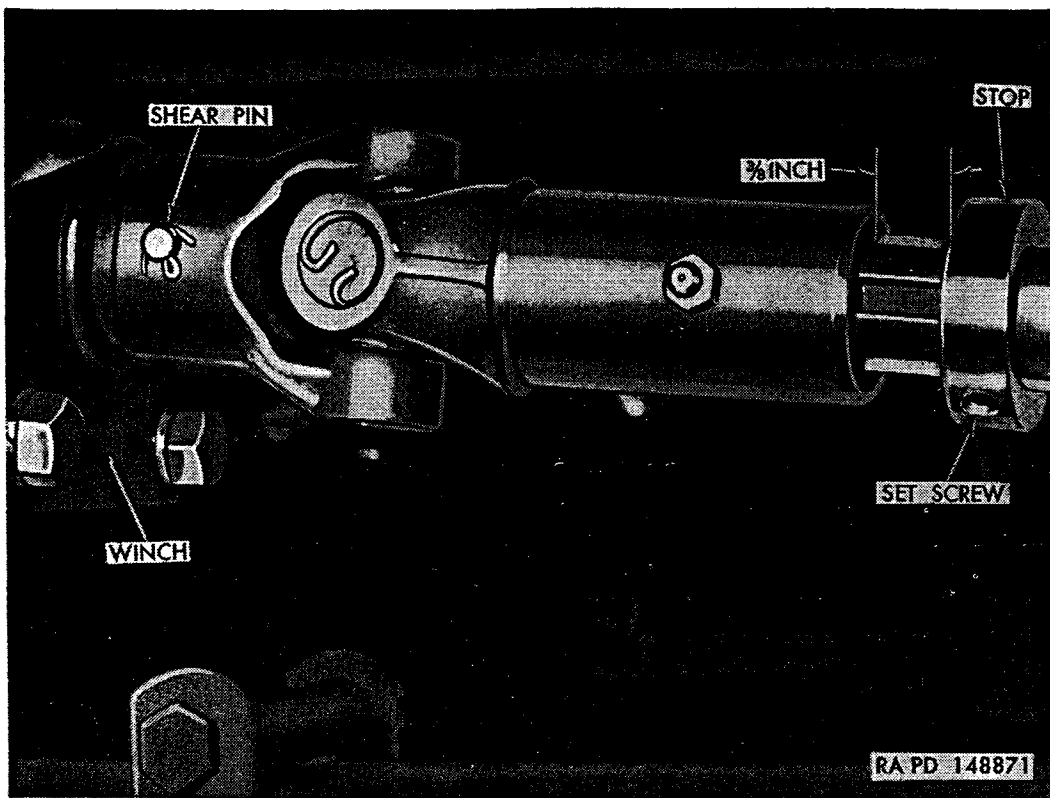
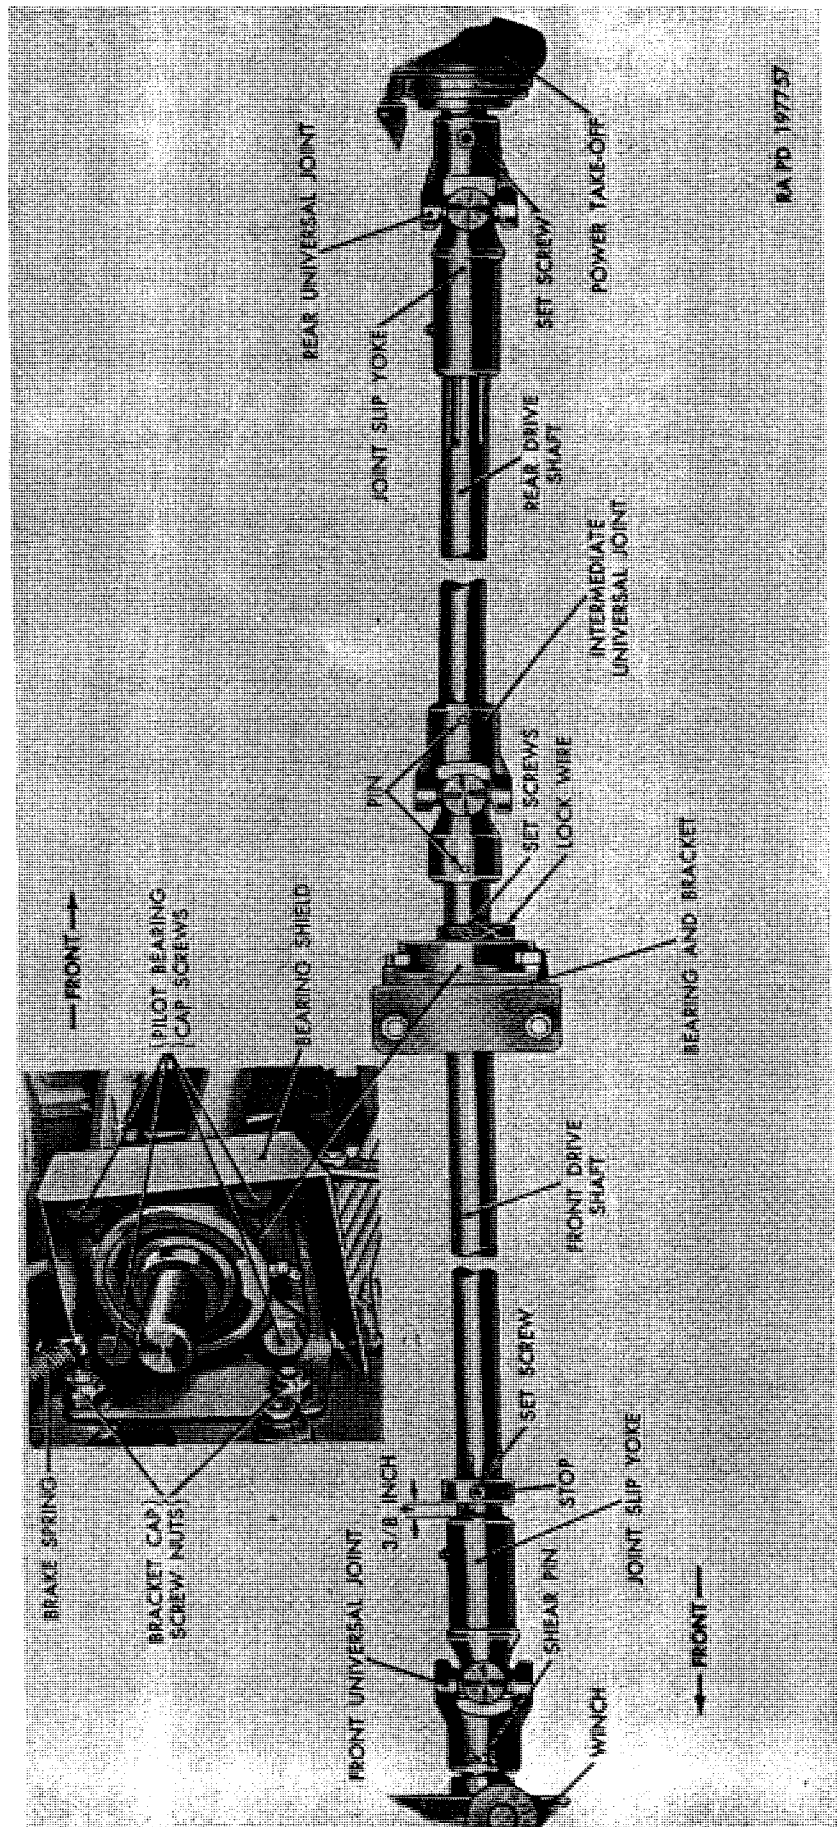

Figure 338. Shear pin installed.
Figure 341. Winch drive line assembled.
- (2) *Drive system.* The winch drive system (fig. 341) consists of two drive shafts connected at center by a universal joint and supported by a pilot bearing. There is also a universal joint at each end of the drive shaft assembly. The rear universal joint consists of a fixed yoke, which is attached to power-take-off shaft by a setscrew and key, and a slip yoke which is splined to rear drive shaft. Center universal joint consists of two fixed yokes which are attached to front and rear drive shafts by woodruff keys and taper groove pins. Front universal joint consists of a fixed yoke which is attached to winch drive worm by a shear pin, and a slip yoke which is splined to the front drive shaft. The two yokes of each universal joint are assembled together with a universal joint journal, four bushing-type bearings, and four snap rings, with a cork seal and a metal seal retainer on each arm of the journal to retain lubricant in bearings. The pilot bearing assembly, consisting of a ball bearing mounted in a bracket attached to left front spring and lower torque rod rear bracket, supports the rear end of the front drive shaft.
(fig. 338)
a. General. Both front and rear drive shafts, universal joint at power-take-off end, and pilot bearing with bearing bracket and shield, are removed as an assembly (fig. 341). Front universal joint at winch is removed after the other parts of the drive line assembly have been removed.
b. Removal (fig. 341).
- (1) At rear universal joint, loosen setscrew securing joint to power-take-off shaft.
- (2) At front of front shaft, loosen setscrew on shaft stop, then slide stop back from end of shaft.
- (3) Disconnect brake pull-back spring from pilot bearing bracket.
- (1) *Cleaning.* Thoroughly wash drive shafts, universal joints, pilot bearing, and other parts in dry-cleaning solvent or volatile mineral spirits.
- (2) *Inspection.*
d. Installation (fig. 341).
- (1) Position pilot bearing assembly in pilot bearing bracket with lubrication fitting at bottom. Attach with four $\frac{1}{2}$ -20 x $\frac{17}{8}$ cap screws and $\frac{1}{2}$ -20 jam nuts; tighten jam nuts to 48 to 64 pound-feet torque. Position pilot bearing shield on the four cap screws; then install $\frac{1}{2}$ -20 safety nuts. Tighten nuts to 48 to 64 pound-feet torque.
- (2) Slide pilot bearing and bracket on front drive shaft with bracket toward front.
- (3) Place $\frac{1}{4}$ x 1 woodruff key in keyway of both front and rear drive shafts. With keyways in alignment, slide front and rear drive shafts into yokes of intermediate universal joint until taper groove pin holes are in alignment. Drive $\frac{5}{16}$ x 2 taper groove pin through each yoke and shaft.
- (4) Install rear universal joint over splines of rear shaft.
- (5) Install front universal joint over winch worm shaft, then install shear pin through joint yoke and shaft. Install $\frac{1}{16}$ x $\frac{1}{2}$ cotter pin at each end of shear pin. Bend cotter pins in place.
- (6) Guide front end of front shaft through cross member hole, then position stop on shaft. Insert front shaft into splines of front universal joint.
- (7) Push entire drive line assembly toward front until rear universal joint yoke can be installed on power-take-off shaft, aligning key in shaft and universal joint yoke. Tighten $\frac{1}{2}$ -13 x $\frac{1}{2}$ hex-socket setscrew which secures joint yoke to power-take-off shaft.
- (8) Position pilot bearing bracket against front spring and torque rod bracket, then install two $\frac{1}{2}$ -20 x $1\frac{1}{4}$ cap screws and $\frac{1}{2}$ -20 nuts. Tighten nuts to 48 to 64 pound-feet torque.
- (9) Tighten two pilot bearing setscrews and install lock wire through heads of setscrews.
- (10) Position stop at front universal joint until three-eighths of an inch exists between collar and universal joint yoke as shown in figure 338. Tighten $\frac{3}{8}$ -16 x $\frac{1}{2}$ hex-socket setscrew.
- (11) Connect brake pull back spring to pilot bearing bracket.